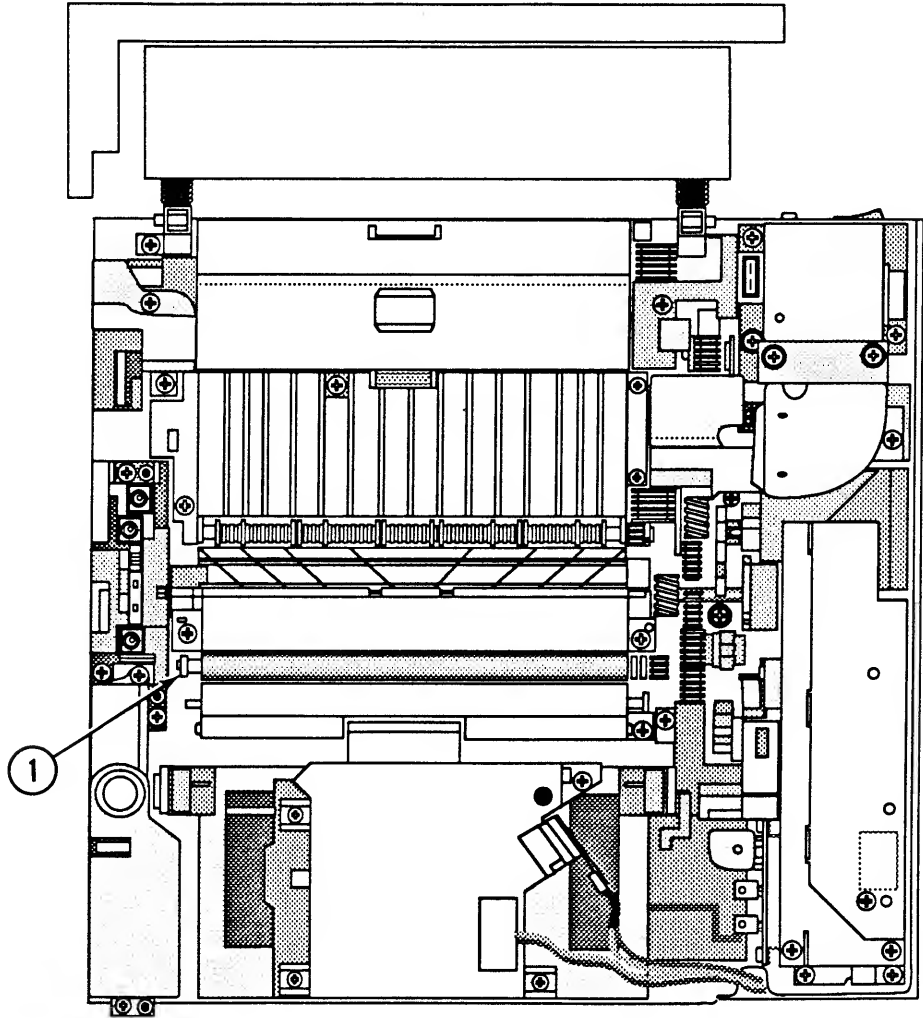

FIGURE 50
2. Using the screwdriver, remove the C-ring (Figure 50, #1) that secures the feeder guide gear to the separation roller shaft. Remove the feeder guide gear.